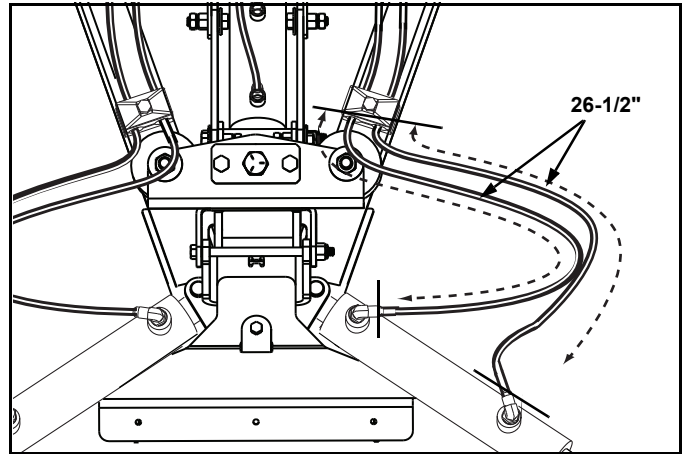

Figure 1-11
16. Adjust each hose length from clamps to hose end fittings to 26-1/2" and tighten both clamp screws. (See Figure 1-11.)